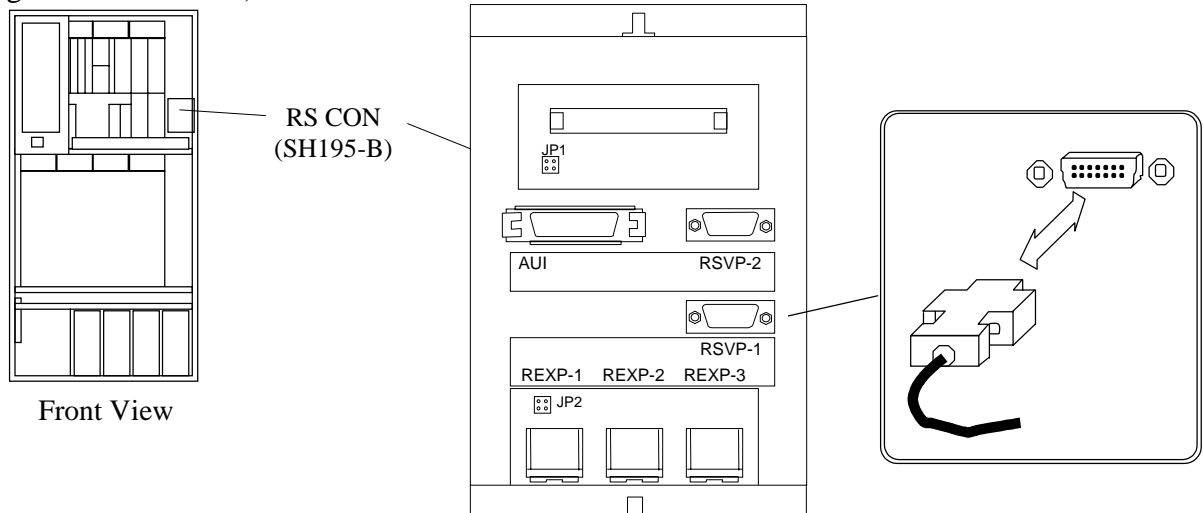

Fig. 7-1
(1) Please remove the cable from RS CON PCB. (See Fig. 7-1)
(2) Please insert the cable into RS CON PCB. (See Fig. 7-1)